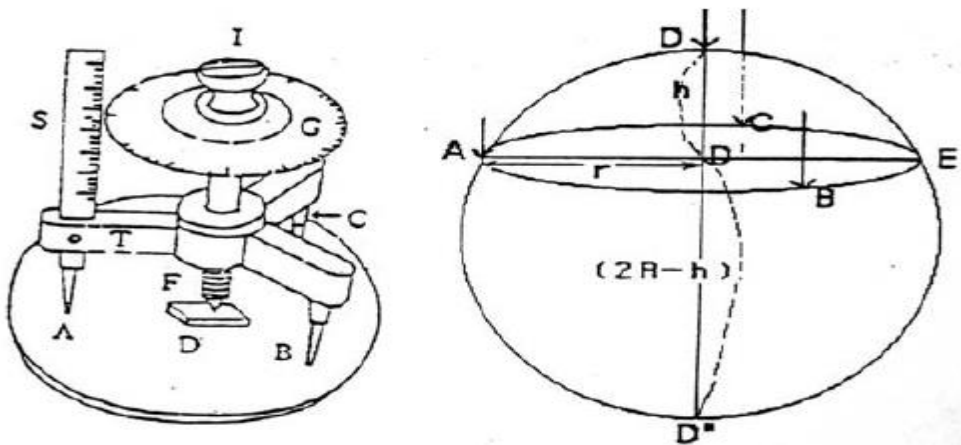

Figure 6
Spherometers are used to measure the thickness of thin objects or the radius of curvature of objects. Its structure and operating principles are similar to those of a micrometer screw. Figure 6 shows that a straight ruler (S) is placed on a tripod (T) and a circular disc is located on top of the screw (I). The circular scale (G) is graduated into 100 equal parts or divisions. For one rotation of the circular scale, it advances or recedes by 0.1 cm on S. Therefore, each division of G is equal to $\frac{1}{100} \times 0.1$ equals 0.001 cm.